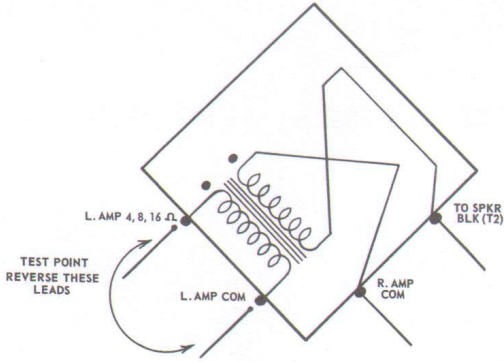

Figure 4 Center Channel Hookup Test Point
- Step 3. Reverse leads 1 and 2. (Fig. 4 Example Shown) and connect in position giving maximum volume in center channel.